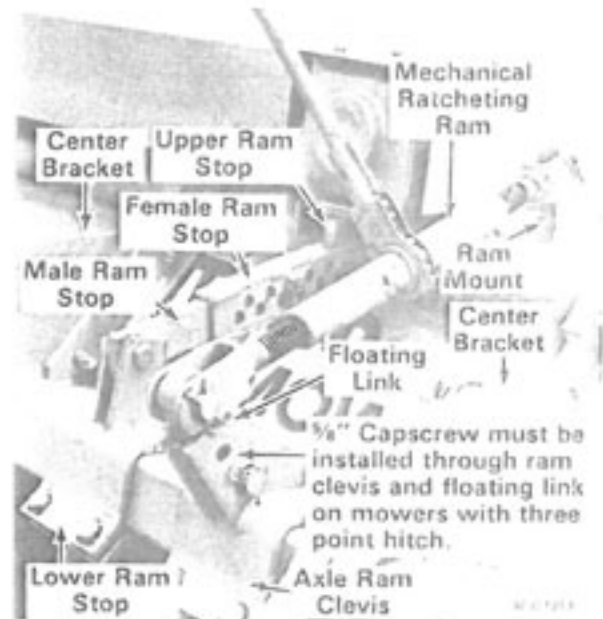

Figure 12
5. On lift type mowers equipped with a rear axle kit, be sure to secure the axle ram clevis floating link so that the axle cannot rotate when the mower is lifted. Use a  $\frac{3}{8}$ -11 x 2 $\frac{1}{2}$ " (Grade 5) hex-head capscrew, lockwasher and hex-nut, see Figure 12.